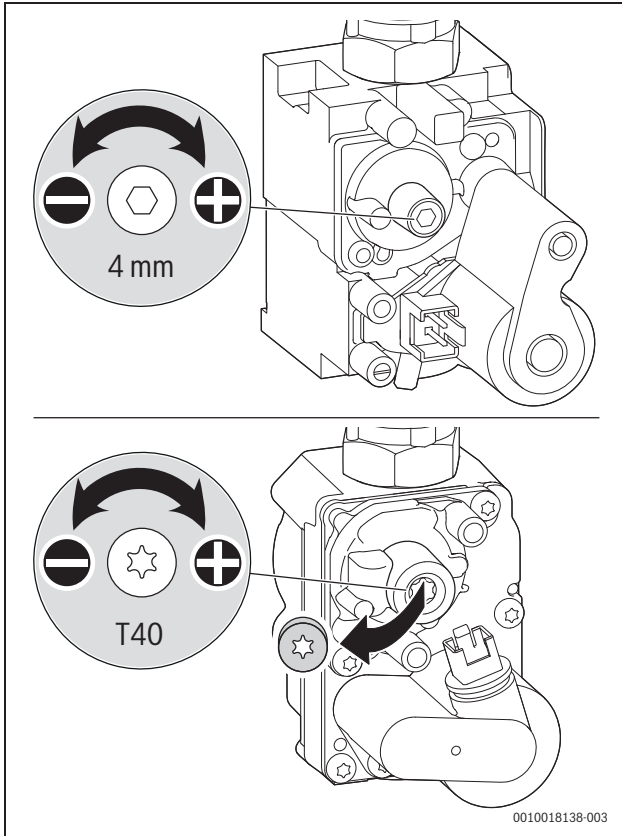

Fig. 104 Setting the CO₂ or O₂ content (above: SIT valve, below: Honeywell valve)
- Remove the seal from the adjusting screw of the air/gas ratio control valve (only air/gas ratio control valve is shown in the below Fig. 104) and set the CO₂ or O₂ content for minimum rated output.